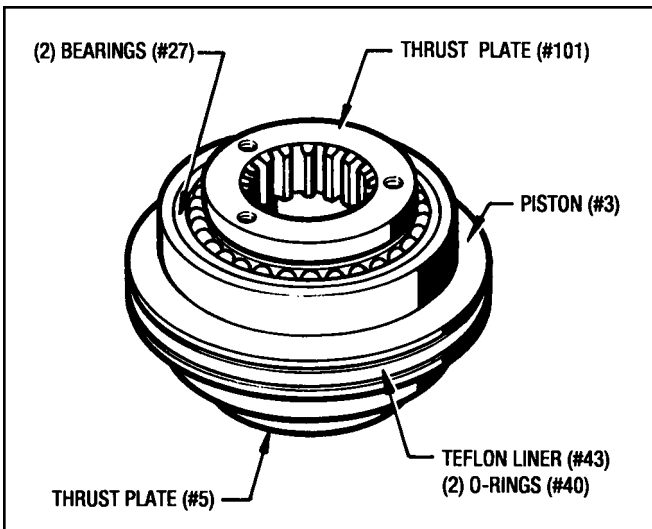

Figure 7.3 - Piston Sub-Assembly
6. The Teflon Liner (#43) and (2) O-Rings (#40) can now be removed for inspection and replacement. (See Figure 7.3)